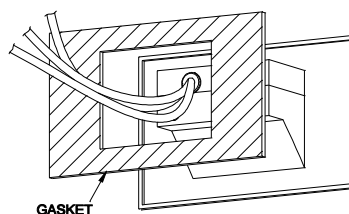

FIG.2
3. Insert gasket onto the back of the fixture (Fig.2).